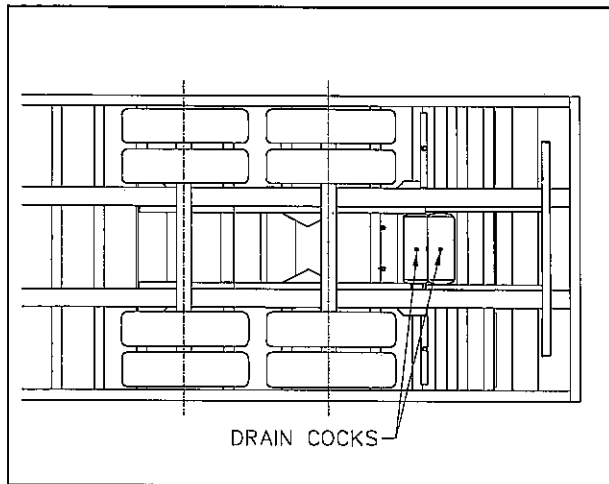

Fig. 4-2 Drain Cock Locations
- d. Drain air reservoir daily. A drain cock on the bottom of each air reservoir vents the tank to drain collected water and oil. If held open, air pressure in the tanks is relieved, causing the emergency or parking brakes to be applied (see Figure 4-2).